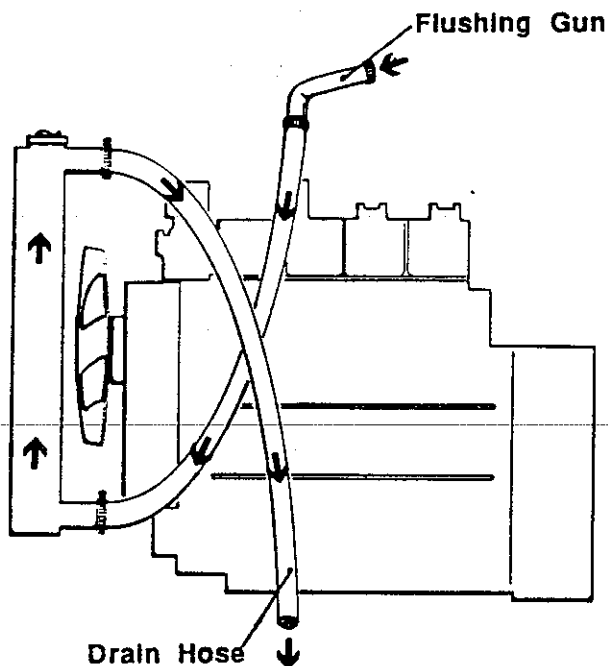

Figure 4-9. Reverse Flow Flushing
27. Reverse Flow Flushing. See figure 4-9.